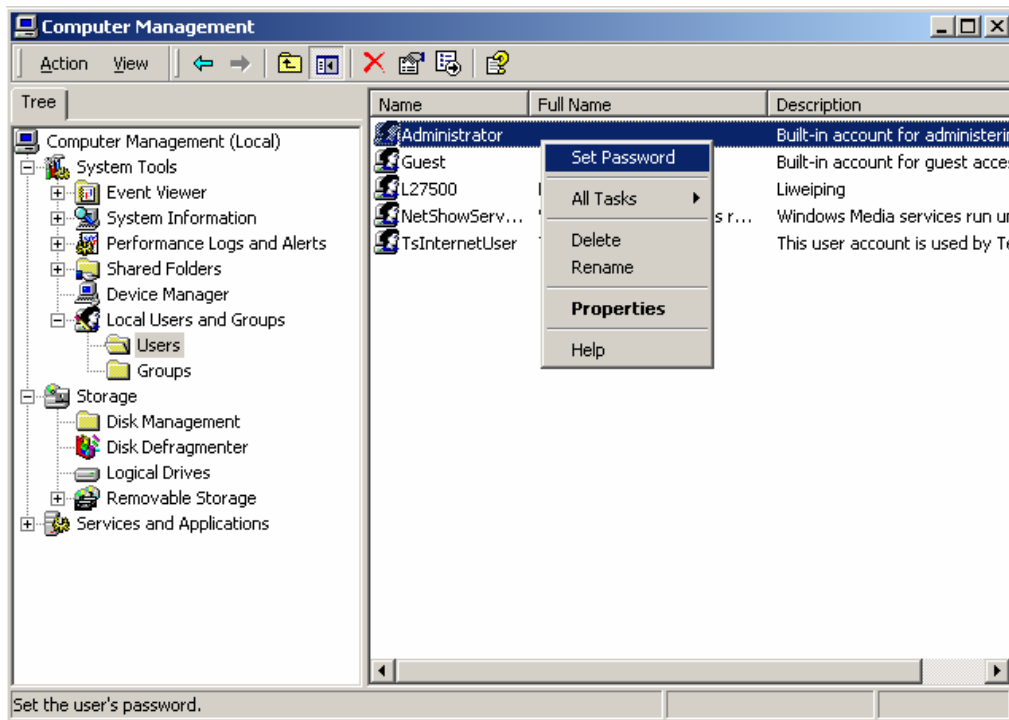

Figure 2-92 [Computer Management] window (3)
- 1) Right-click Administrator in the right pane of the [Computer Management] window. Select [Set Password] from the shortcut menu. See Figure 2-92.